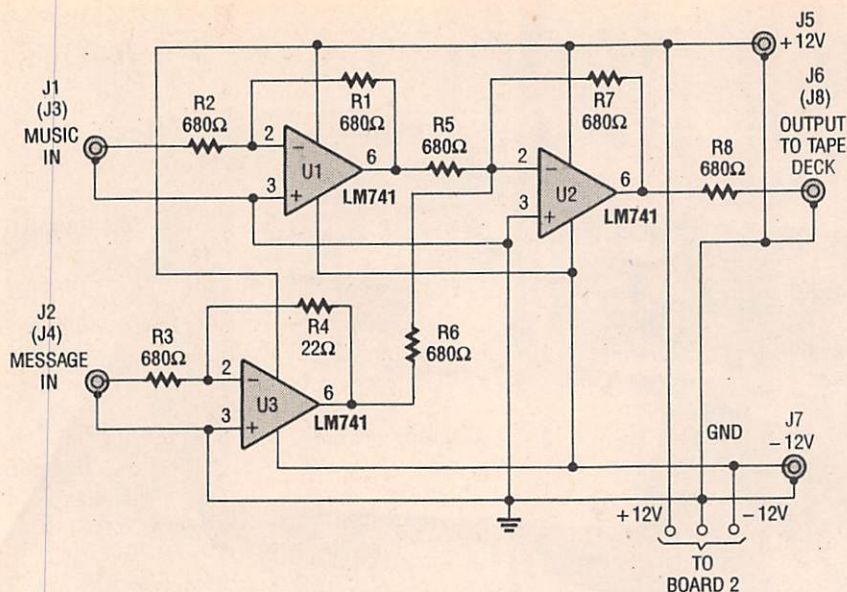

Fig. 1. Built around three LM741 general-purpose op-amps, the Subliminal Tape Mixer is designed to be completely goofproof—there are no adjustments to be made.
**Circuit Theory.** The tape mixer (see Fig. 1) is designed to be completely goofproof—there are no adjustments to be made. The main music input is passed through the mixer with no amplification and sent to the tape recorder, while the subliminal track is attenuated by 30 dB. At those levels, it is possible to hear some of the subliminal message if the music is off (like during quiet passages) and the playback volume is high. But when the regular music is on, you'll not be able to tell if the subliminal is on or off.